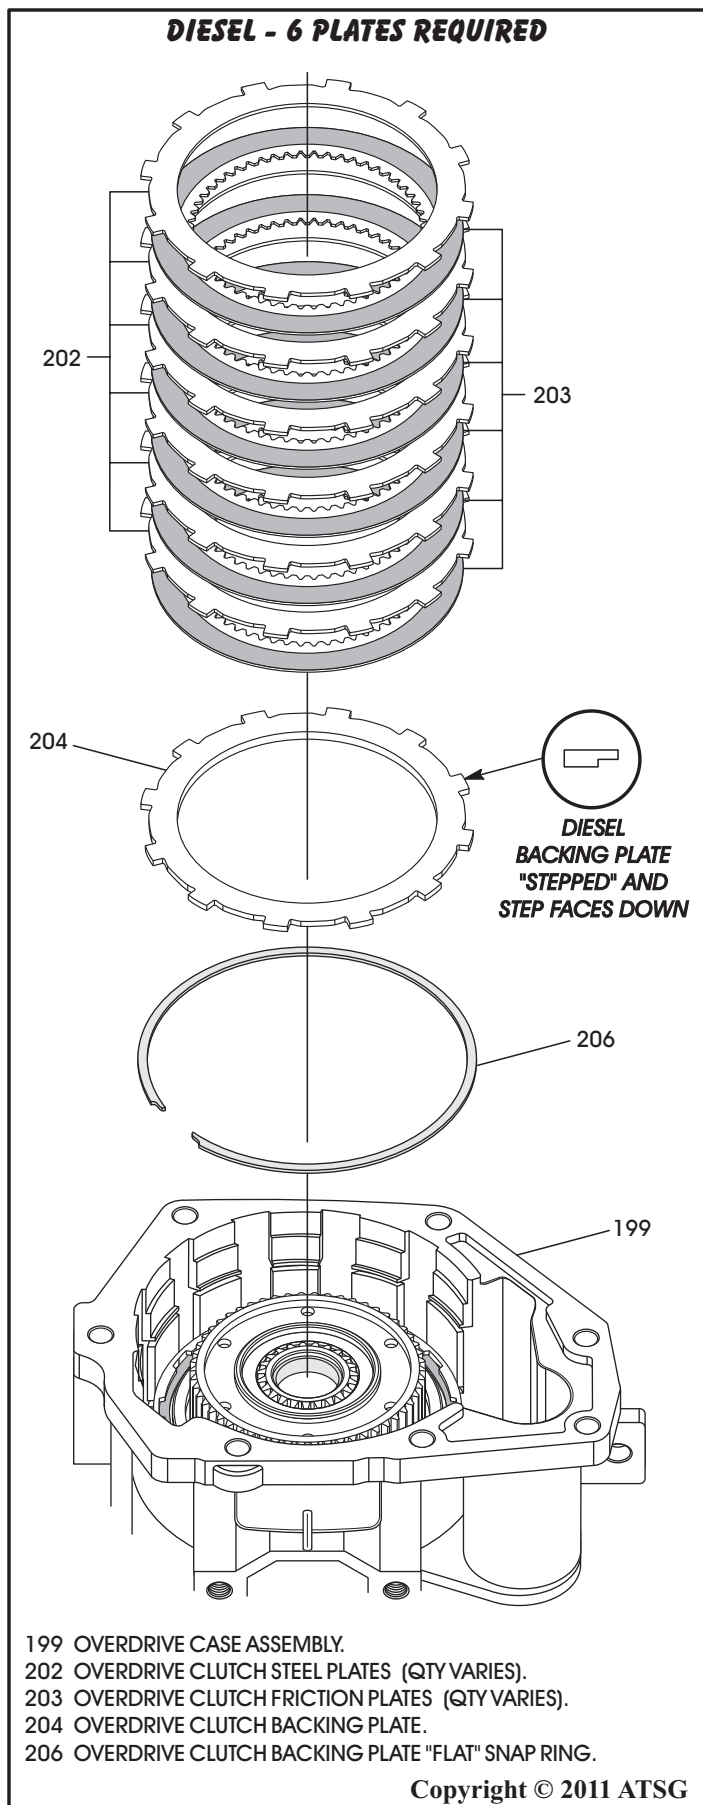

Figure 150
Note: Notice that the gasoline backing plate has no step. The Diesel backing plate uses a stepped backing plate (See Figure 150).
Note: The Diesel does not use the "waved" snap ring (See Figure 150).
10. Remove the overdrive clutch pack for Diesel engines which require 6 friction and 6 steel plates, as shown in Figure 150.
11. Remove the overdrive clutch backing plate, as shown in Figure 150.
12. Remove the overdrive clutch backing plate "flat" snap ring, as shown in Figure 150.